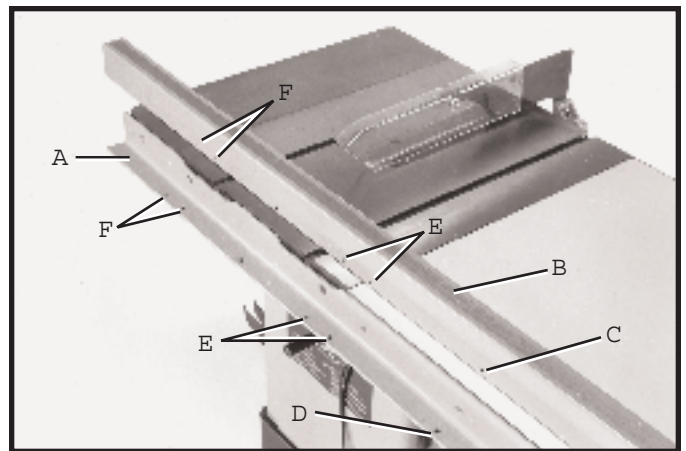

Fig. 20
17. Lay the guide tube (B) Fig. 20, on the saw table as shown, and line up the threaded holes (C) on bottom of guide tube (B) with the through holes (D) on the front rail (A). IMPORTANT: If a switch adapter is being used for Unisaws or 10 Contractor's Saws to mount the switch to the rail and guide tube, holes (E) are used to mount the Unisaw switch adapter and holes (F) will be used for the Contractor's Saw switch adapter.